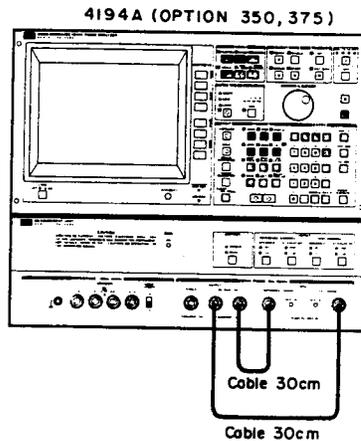

Figure 4-25. Power Splitter Test Setup 1
1. Set up the equipment as shown in Figure 4-25.